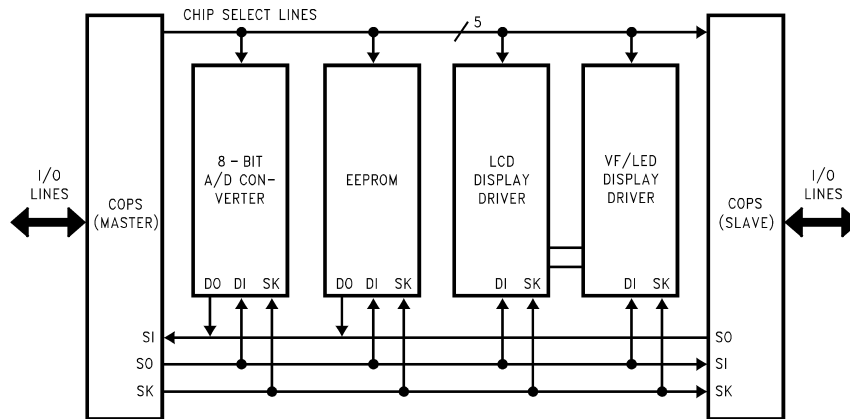

FIGURE 29. MICROWIRE/PLUS Application
MICROWIRE/PLUS is a serial SPI compatible synchronous communications interface. The MICROWIRE/PLUS capability enables the device to interface with MICROWIRE/PLUS or SPI peripherals (i.e. A/D converters, display drivers, EEPROMs etc.) and with other microcontrollers which support the MICROWIRE/PLUS or SPI interface. It consists of an 8-bit serial shift register (SIO) with serial data input (SI), serial data output (SO) and serial shift clock (SK). *Figure 29* shows a block diagram of the MICROWIRE/PLUS logic.
Setting the BUSY bit in the PSW register causes the MICROWIRE/PLUS to start shifting the data. It gets reset when eight data bits have been shifted. The user may reset the BUSY bit by software to allow less than 8 bits to shift. If enabled, an interrupt is generated when eight data bits have been shifted. The device may enter the MICROWIRE/PLUS mode either as a Master or as a Slave. *Figure 29* shows how two microcontroller devices and several peripherals may be interconnected using the MICROWIRE/PLUS arrangements.